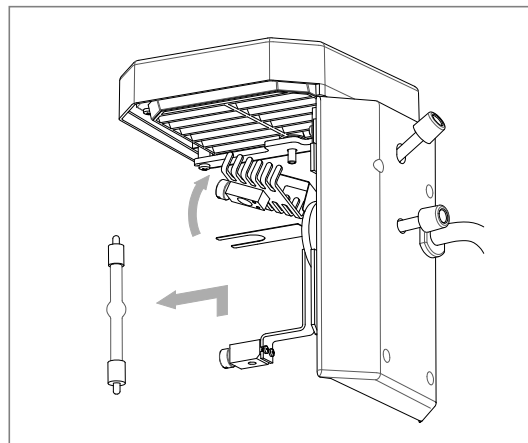

Fig.8-10
8.4.5 Gently pushing upper lamp holder until mercury lamp electrode is loosen, removing the tube. (Fig. 8-10)